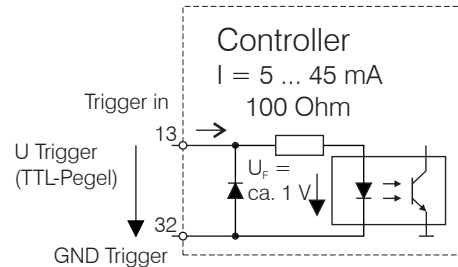

Fig. 29 Trigger input
- by a trigger input, see Fig. 29, or